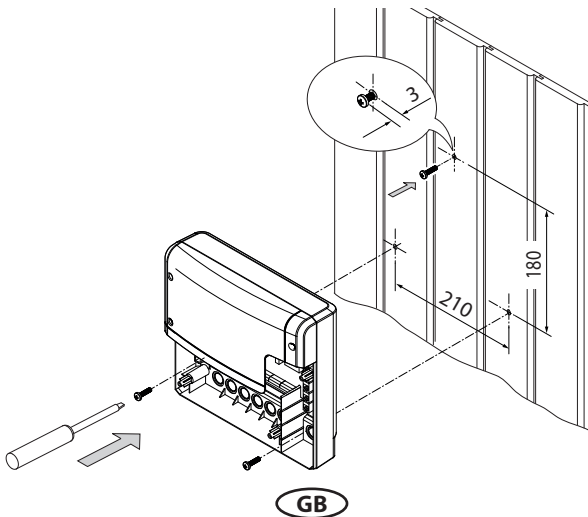

Fig. 2
2. The relay box has three mounting holes on the rear side. Refer to fig. 2 below for dimensions in order to mark the position on the wall (template). The central upper screw shall be used to hang the relay box onto it with the corresponding opening on its rear side. Two lower screws shall be used to secure the housing to the wall after it is hanged on the upper screw.